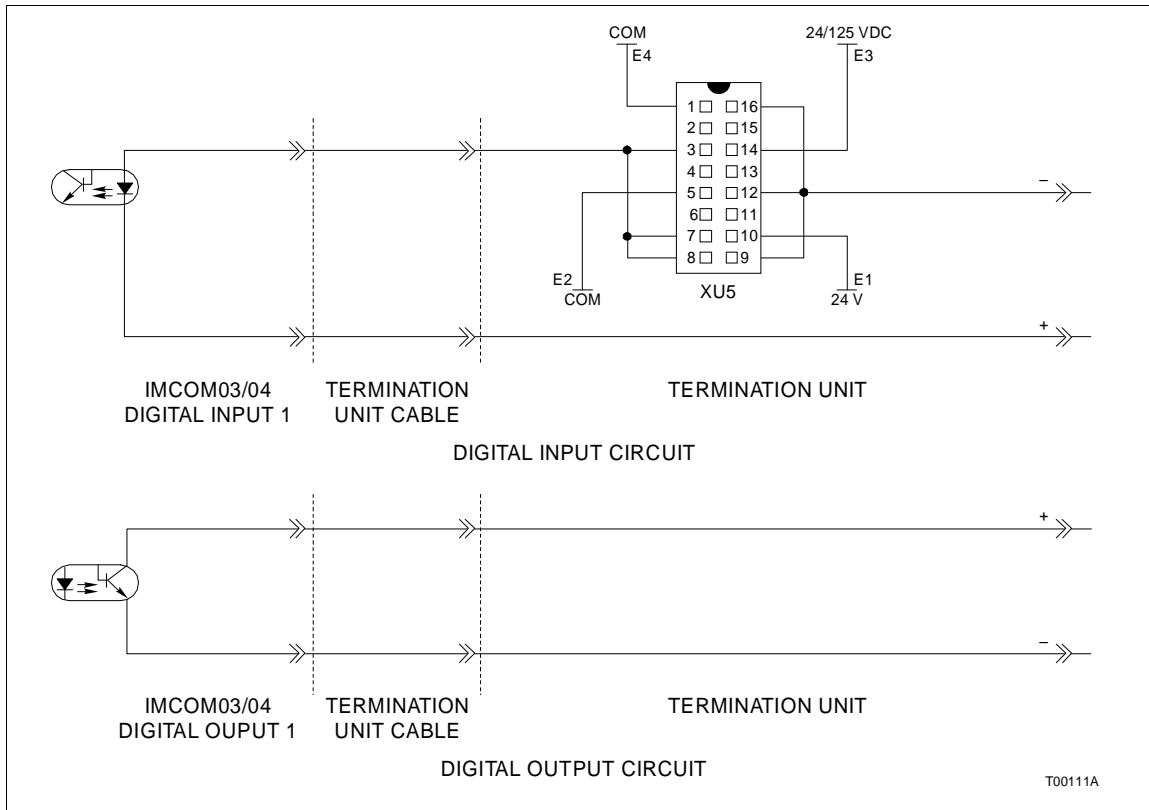

Figure 2-3. IMCOM03/04 Digital Input and Output Circuits
The COM can input three separate digital signals and output four separate digital signals. Digital inputs are voltages of 24 VDC or 125 VDC. These voltages indicate an energized (ON) field device; a 0 Volt input indicates a de-energized (OFF) field device. The COM digital outputs are 24 VDC at 150 mA. A 24 VDC output energizes (turns on) the field device; a 0 Volt output de-energizes (turns off) the field device. Figure 2-3 shows a typical digital input and output circuit.